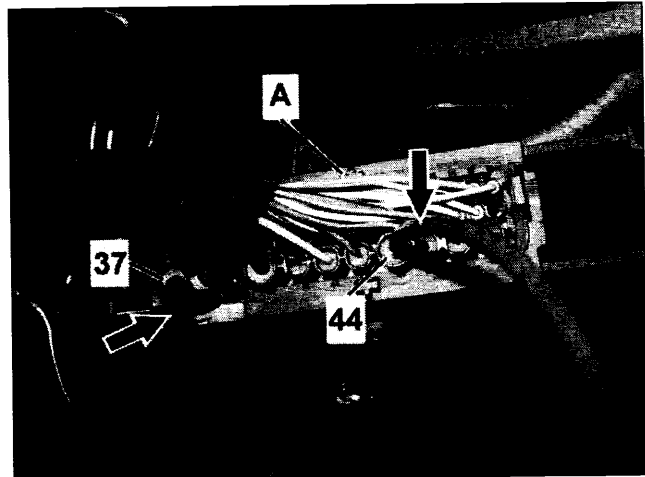

Figure 15
13. Remove SBC ground wires (arrows, Figure 15) from SBC harness connector (A):
- Unpin SBC ground wire connectors (position 37 and 44) using cable release (Special Tools: W 000 589 13 99 30 and W 220 589 01 99 50) and remove ground wires (arrows) from SBC connector housing (A).
14. Insert the new ground wire harness (arrows Figure 15) into the SBC connector housing (A):